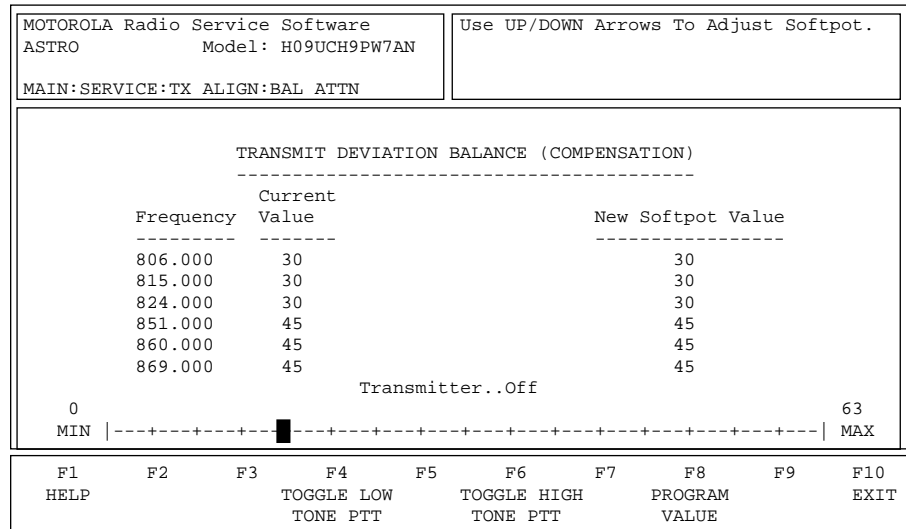

Figure 6 Transmit Deviation Balance (Compensation) Alignment Screen
2. Press **D** to select the TRANSMIT DEVIATION BALANCE (COMPENSATION) alignment screen. The screen will indicate the transmit frequencies to be used. See Figure 6.